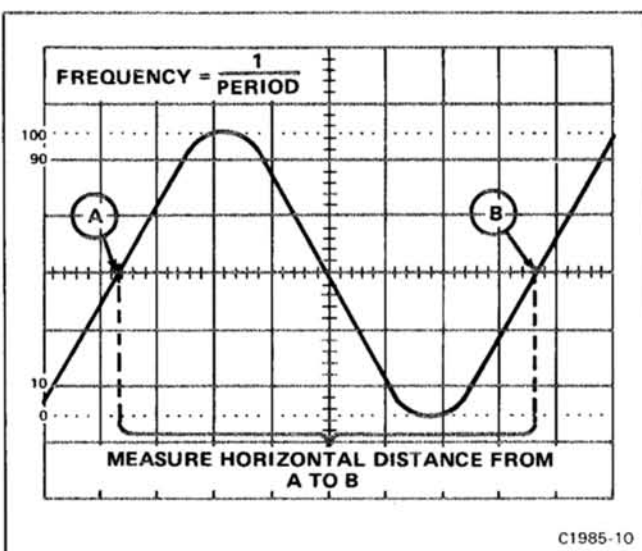

Figure 1-7. Measuring the period and determining the frequency of a displayed waveform.
6. Set the TIME/DIV switch and POSITION control for 1 complete cycle displayed within the center 8 graticule divisions as shown in Figure 1-7.
7. Measure the horizontal distance in divisions over 1 complete cycle of the displayed waveform (see Fig. 1-7).
Example: Assume that the horizontal distance over 1 complete cycle is 7 divisions, and the TIME/DIV switch setting is 0.1 ms (see Fig. 1-7).